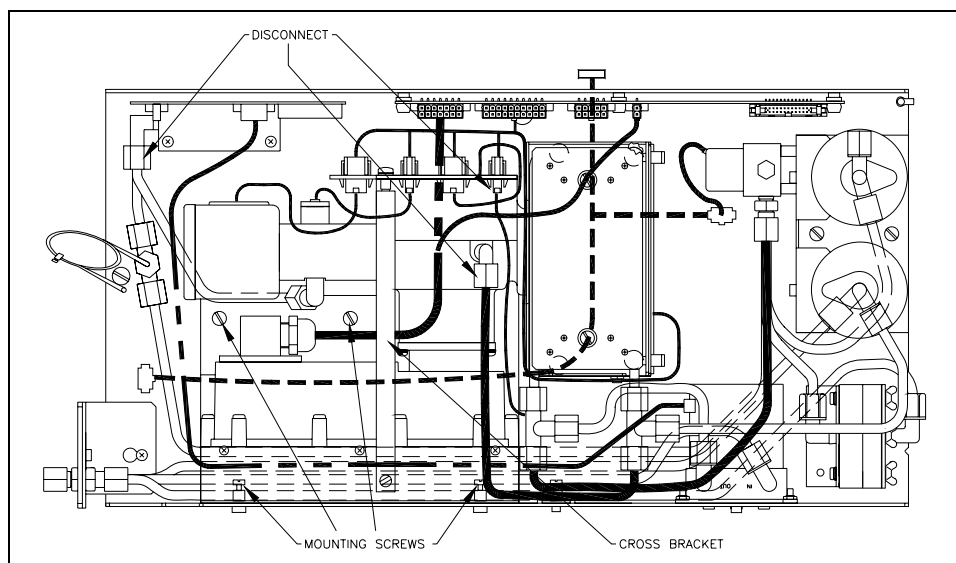

Figure 18. Rx Cell/PMT Housing Removal (A Series)
3. Disconnect the 1/8" tubing from the Rx cell inlet and the 1/4" tubing line from the Flow Control inlet (top fitting). Refer to Figure 18.
5. Loosen the captive screws that secure the PMT housing to the chassis (two screws secure to the side of the chassis, and two screws secure to the bottom of the chassis). Refer to Figure 18.